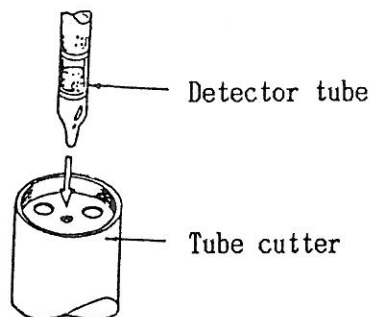

Fig 3-2
- 2) Take out detector tube from the box. Put it into the center of tube cutter. Cut off the both ends of tube by declining it (Fig 3-2).